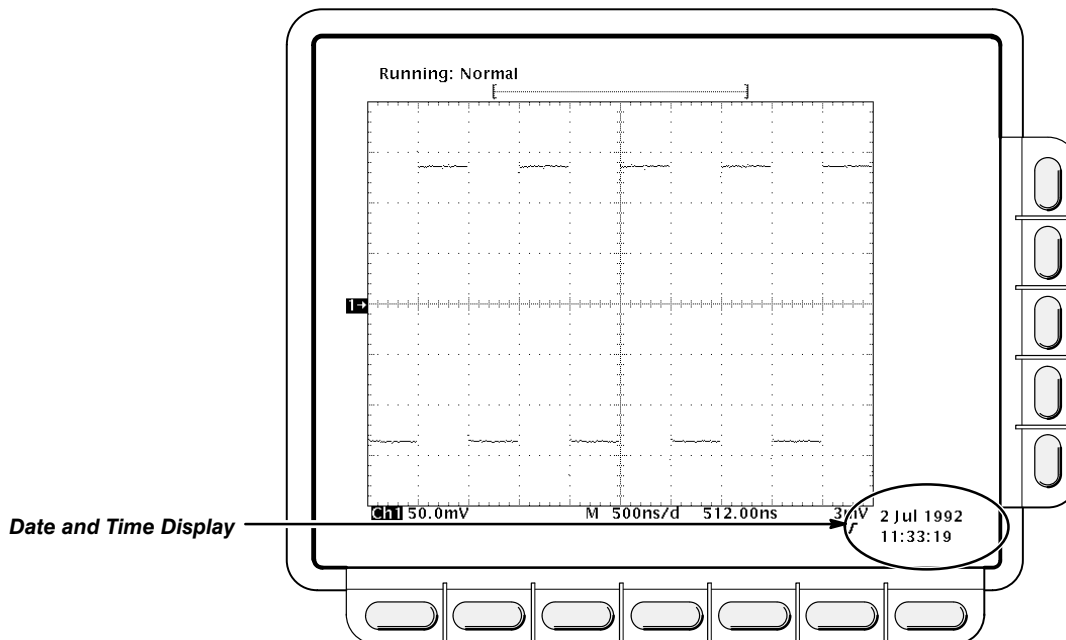

Figure 3-20: Date and Time Display
3. Press **Clear Menu** to remove the menu from the display so the date and time can be displayed. See Figure 3-20. (The date and time are removed from the display when menus are displayed.)